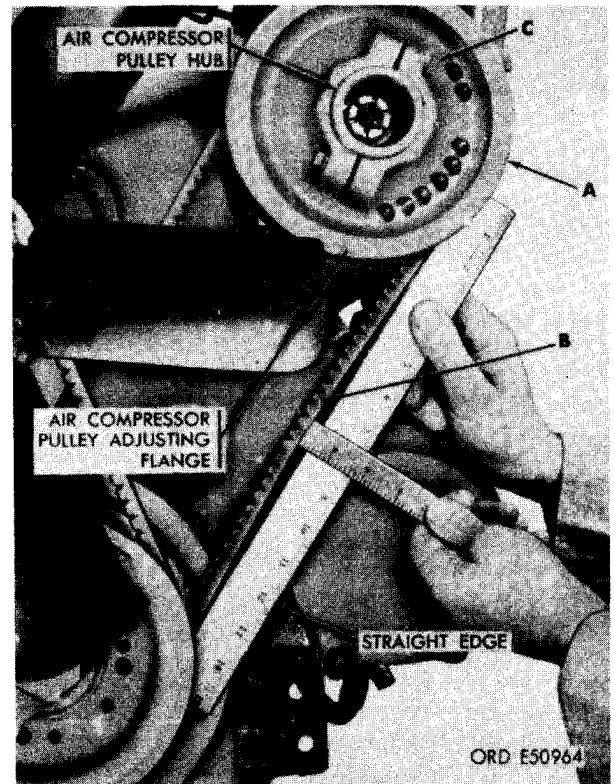

FIGURE 87. ADJUSTING AIR COMPRESSOR DRIVE BELT DEFLECTION .
- (3) Figure 87. (A) Rotate air compressor pulley adjusting flange clockwise using wrench- 10935288 (fig. 81) until excessive slack is removed from belt. (B) Check drive belt deflection using a straight edge and scale as shown. Total belt deflection at free span of belt